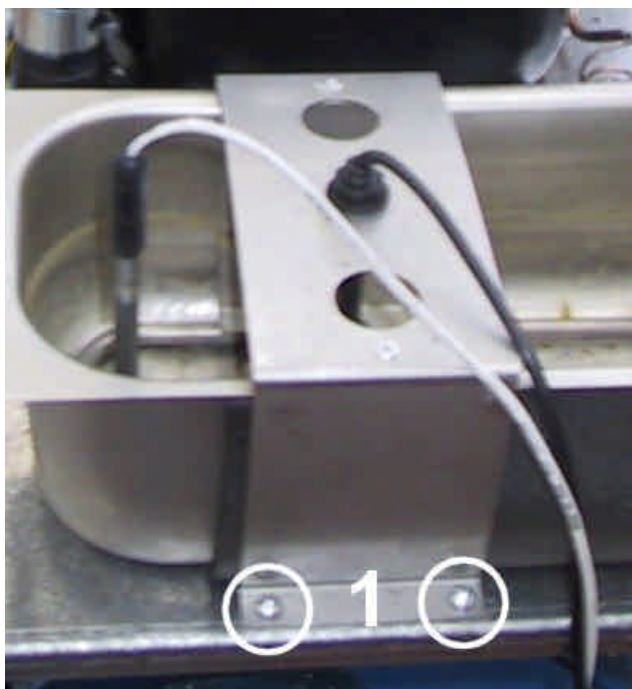
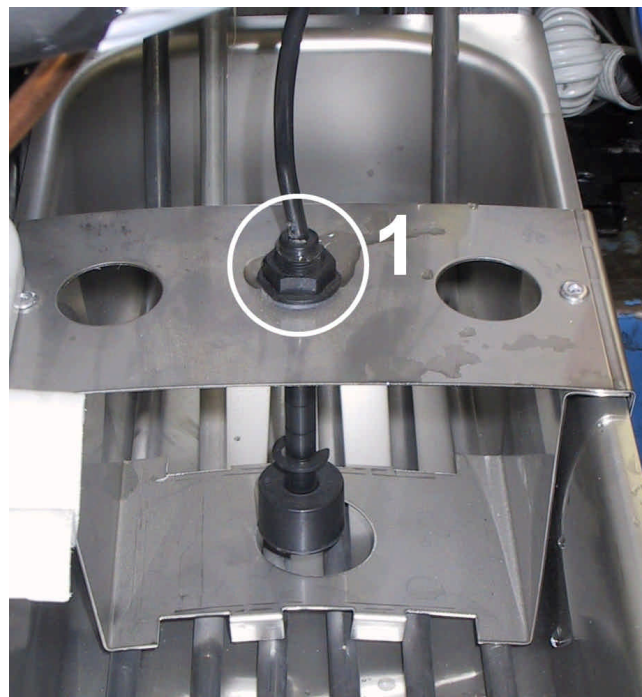

Figure 63
Figure 64
Remove the water evaporator tray fixing bracket (86) from the inox tray by unscrewing the screws indicated as "1" in Figure 63 and located on only one side. To remove the switch (ILA) (73) unscrew the fixing nut shown as "1" in Fig. 64.
4.3.2.4 WATER EVAPORATOR HEATER REPLACEMENT (RVR) (75)
In order to replace the water evaporator heater (RVR) (75) located inside the inox tray (97) (Fig. 63 and 65) it is necessary to pull out the basement as shown in par. 2.4.1.2. and remove the fixing bracket (86) of the evaporator inox tray (97) supporting the floating switch (ILA) (73) as indicated in par. 4.3.2.1.